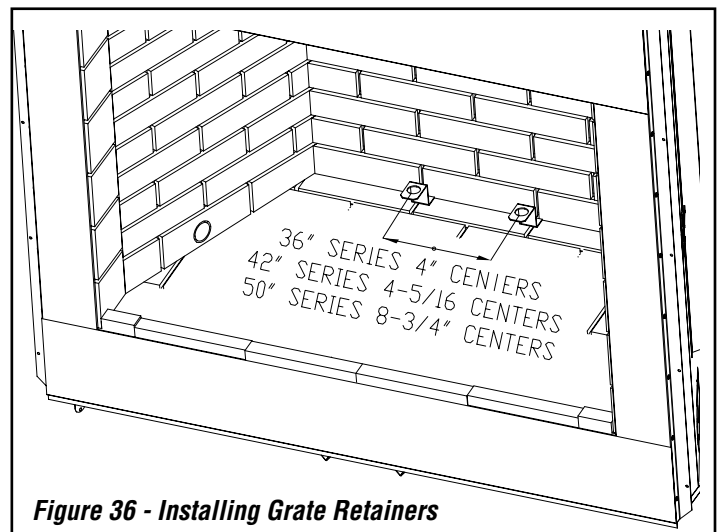

Figure 36 - Installing Grate Retainers
1. Place the provided grate retainers on the hearth as shown in Figure 36. The back of the retainer will be flush with the rear firebrick wall. Mark the center of the hole on the hearth with a marker.
2. Position "Z" shape retaining brackets on top of the notched area toward the rear of the bottom brick panel. Grate retaining bracket should be positioned as shown in **Figure 36, Page 17**.